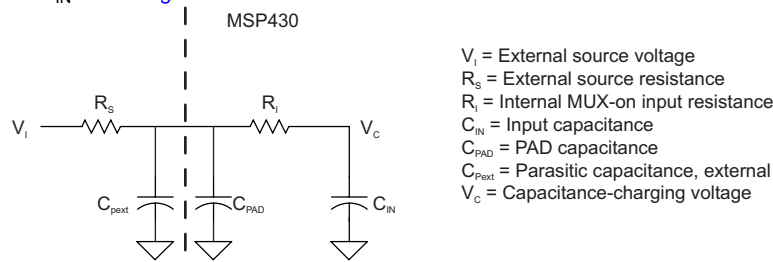

Figure 5-18. eCOMP Input Circuit
(1) See Figure 5-18 for eCOMP C_{IN} model. Figure 5-18